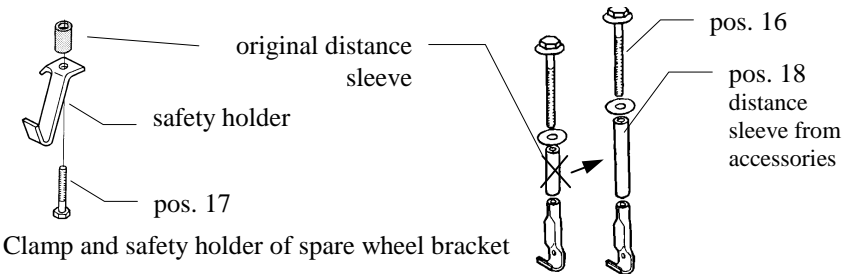

Fig. 3. Clamp and safety holder of spare wheel bracket
5. Between mounted brackets (pos. 4 and 5) put main bar of towing hitch (pos. 1) and fix by bolts M12x 40mm (pos. 10).
6. In the spare wheel clamp replace original distance sleeve for sleeve from towing hitch accessories (pos. 14). To reinstall the clamp use bolt M12x140mm (pos. 7) from accessories. Reinstall (if fitted) the safety holder using original sleeve from clamp and bolt M8x50mm (pos. 13) from towing hitch accessories. See fig. 3
7. Fix tow-ball (pos. 2) together with socket plate (pos. 3) by bolts M12x75mm (pos. 8) and M12x70mm (pos. 9) from accessories.